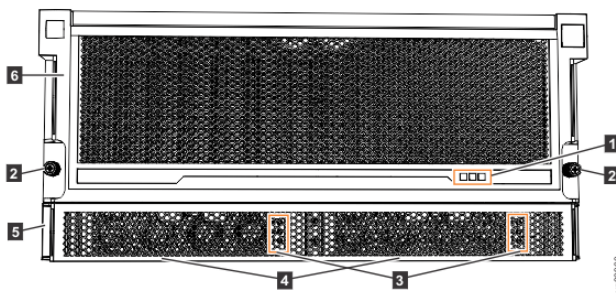

Figure 51. Features on the front of the 5U expansion enclosure
Important: Before you connect the power cables to the rear of the enclosure, always check that the expansion enclosure is secured in the rack. If needed, tighten the thumbscrews on the front of the enclosure (2 in Figure 51 on page 91) to ensure that the enclosure drawer does not roll open.
The 5U expansion enclosure has two power supply units (PSUs) that are accessible from the front of the enclosure (4 in Figure 51 on page 91). As the figure also shows, the PSUs are covered by the 1U fascia (5).
On the front of the enclosure, the indicators on the front display panel and each PSU (1 and 9 in Figure 51 on page 91) are also lit when the power is connected. See “High density expansion enclosure LEDs and indicators” on page 221 for information about the status that is provided by the indicators.